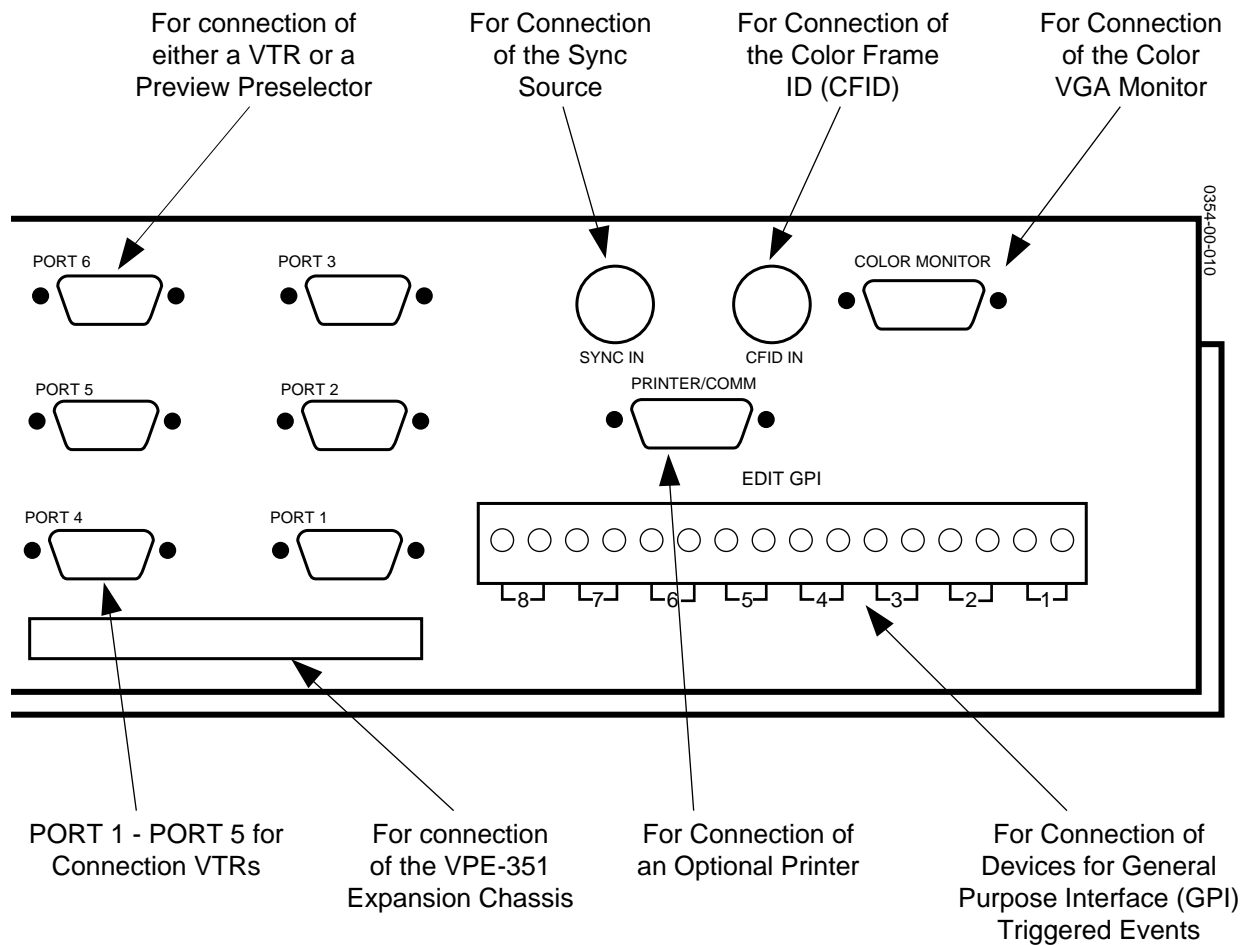

Figure 3-6. Computing Chassis Rear Panel Connectors
Figure 3-6 illustrates the rear panel of the Computing Chassis and identifies the connections which will be made to it. To make these connections, refer to Figure 3-6 and proceed as follows:
4. Attach the provided VTR cables from the VTRs to the appropriate PORT 1 - PORT 7 connectors. (See the NOTES on Figure 3-6 and especially Appendix B for additional information on VTR port availability and connections.)
9. See the NOTES on Figure 3-6 if using an 8465 or 8466 Preview Switcher and/or a Preview Preselector. Also see Appendix B.